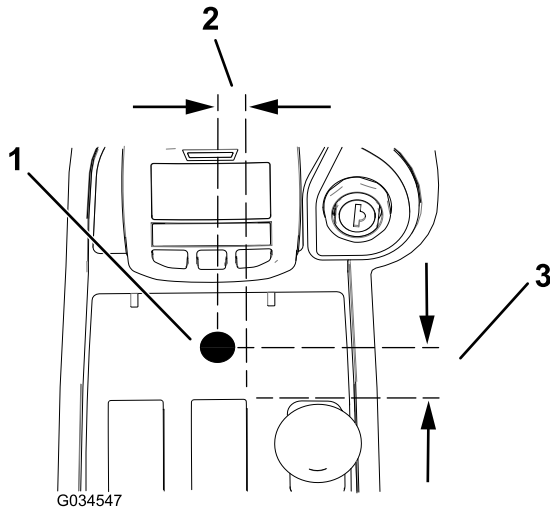

Figure 16
1. Drill a 13 mm (1/2 inch) hole in the center console; refer to Figure 16 for the appropriate orientation.